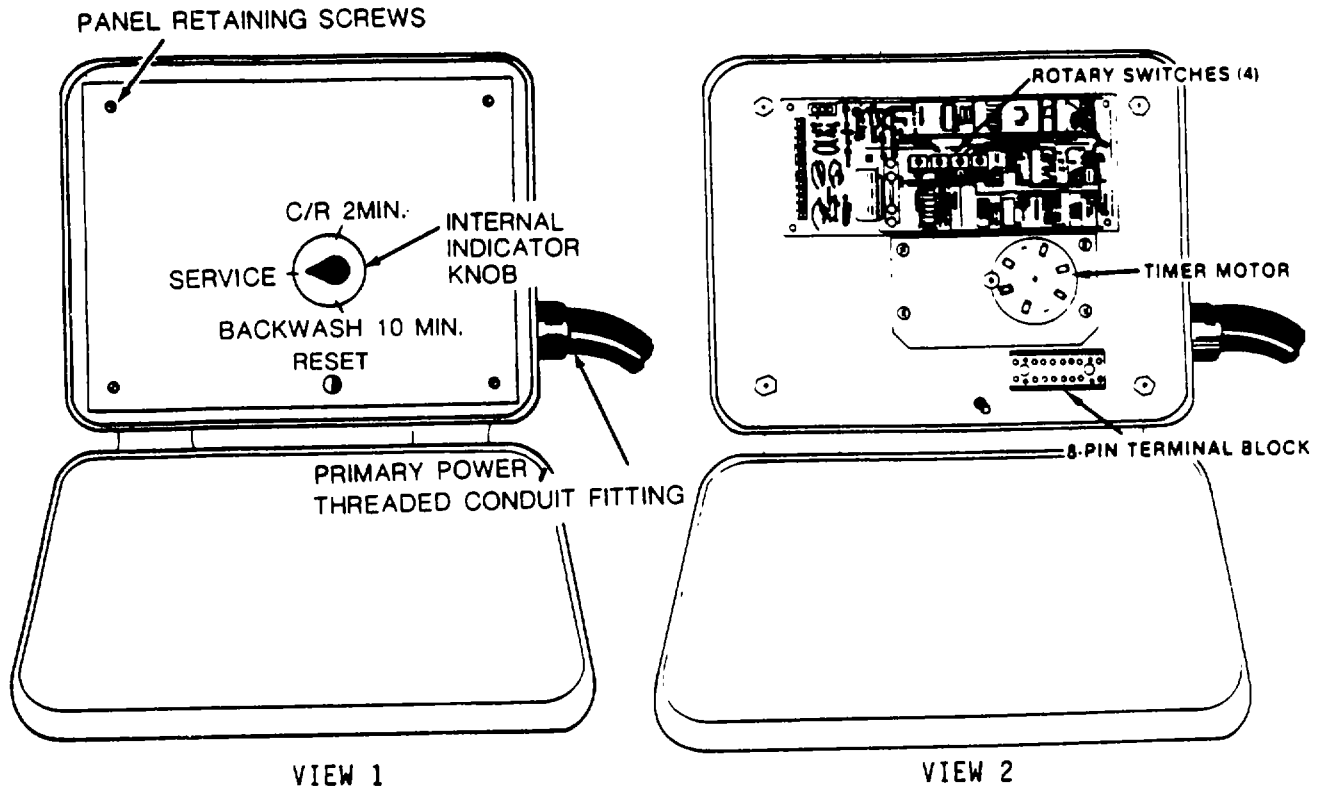

Figure 2-74. Solid-State Timer (Subpanel and Rotary Switches)
(1) Ensure INTERNAL INDICATOR knob is in the SERVICE position by pressing the black RESET button. The INTERNAL INDICATOR knob allows the position of the pilot controller valve to be changed manually, which is never necessary if timer is functioning properly. In any event, if pilot controller valve is not in SERVICE position, ROWPU cannot be backwashed using normal procedures. In fact, ROWPU will not even operate.
(2) Overcurrent protection is provided by an internal resettable semiconductor. In the event of an overload, the circuit breaker is reset by depressing the RESET button. If power loss erases the memory of the time control counter, an automatic homing circuit is incorporated into the system which returns the pilot controller to the service position whenever power is restored.
(3) Remove the subpanel to access the four 1 O-position rotary switches (view 2, fig. 2-74) used to set the duration (in minutes) of each phase of the backwash cycle. Ensure settings are as follows:
- (1) Shut the ROWPU down in the normal way (para. 2-31).
- (2) Make sure R.O. ELEMENT CLEANING switch (fig. 2-74) on side of control panel is down.
- (3) Check water level in backwash tank. Tank should be full.
- (4) Ensure basket strainer in backwash pump is not clogged.
- (5) Open backwash tank valve.
- (6) Loosen draincock on bottom of backwash pump to prime pump.
- (7) Turn BACKWASH VALVE handle downward to BACKWASH.
- (8) Press RESET button on backwash timer to ensure INTERNAL INDICATOR knob is in service position (view 1, fig. 2-74).
- (9) Push BACKWASH switch up to START position and release immediately.